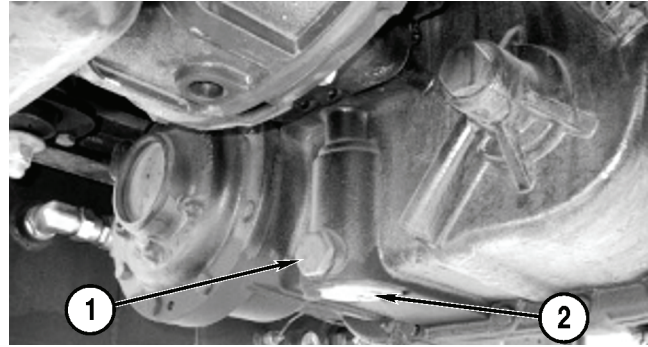

Figure 5-72
1. Remove the drain plug (**Figure 5-72, 1**).
5. Remove the strainer (**Figure 5-72, 2**), clean with clean diesel fuel then reinstall the strainer and plate.